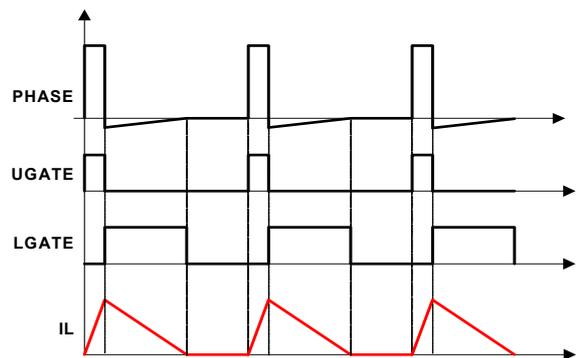

Figure 27. Diode Emulation
The R3 modulator can operate in Diode Emulation (DE) mode to increase light-load efficiency. For example, in Buck DE mode the low-side MOSFET conducts when the current is flowing from source-to-drain and does not allow reverse current, emulating a diode. As shown in Figure 27, the low-side MOSFET carries current when LGATE is on, creating negative voltage on the phase node due to the voltage drop across the ON-resistance. The IC monitors the current by monitoring the phase node voltage. The RAA489800 turns off LGATE when the phase
If the load current is light enough, as Figure 27 shows, the inductor current reaches and stays at zero before the next phase node pulse. At this stage, the regulator is in Discontinuous Conduction Mode (DCM). If the load current is heavy enough, the inductor current never reaches 0A and the regulator is in Continuous Conduction Mode (CCM), although the controller is in DE mode.